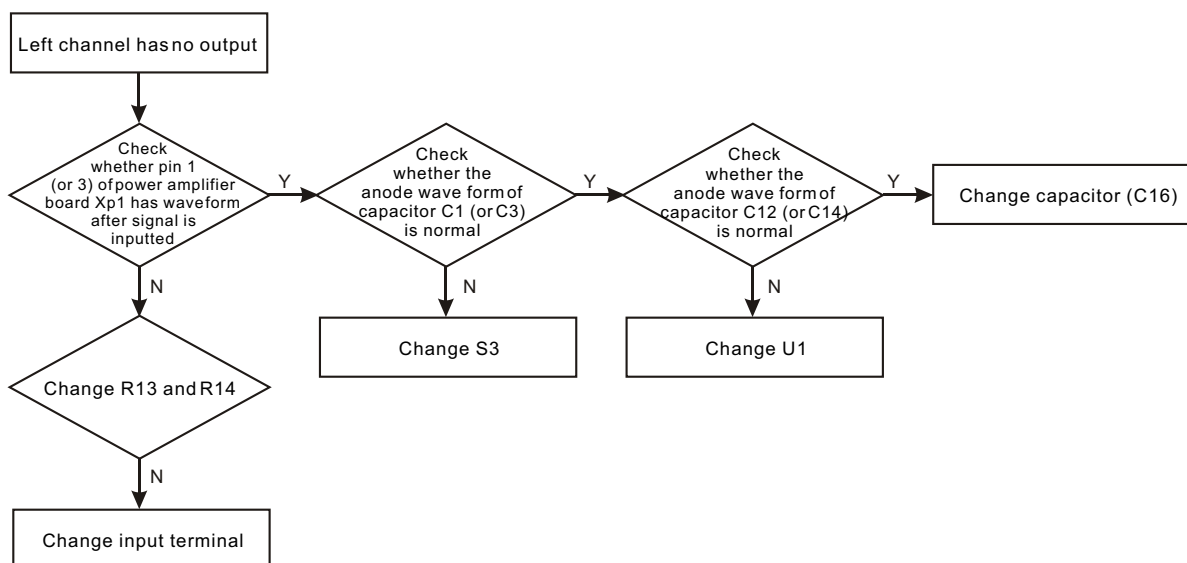

Figure 3.1 Troubleshooting flow for “Left channel has no output”
(1) Troubleshooting flow for “Left channel has no output” os shown as the following figure 3.1: